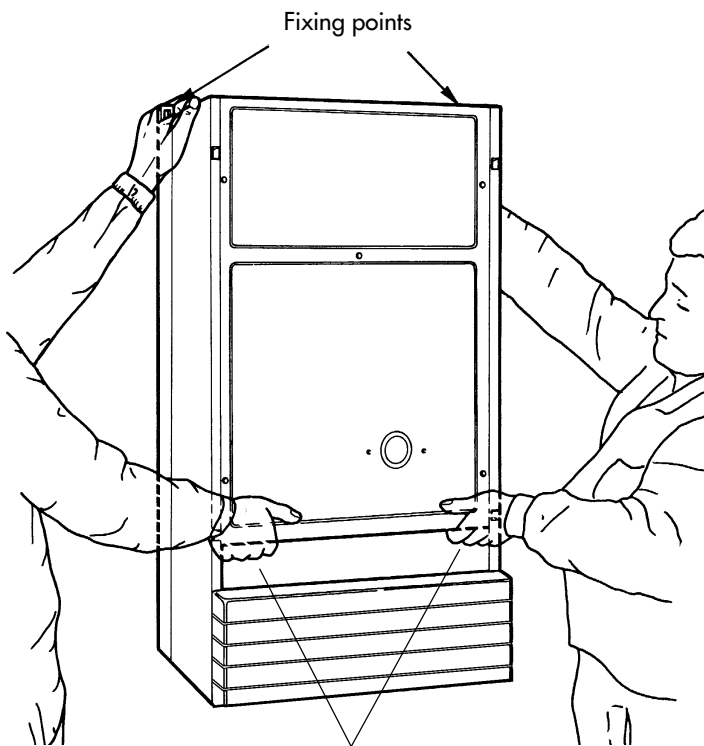

Fig. 15
- 5.3 Lift boiler as shown in fig. 15 onto the fixing bolts and fit supplied nuts and washers.